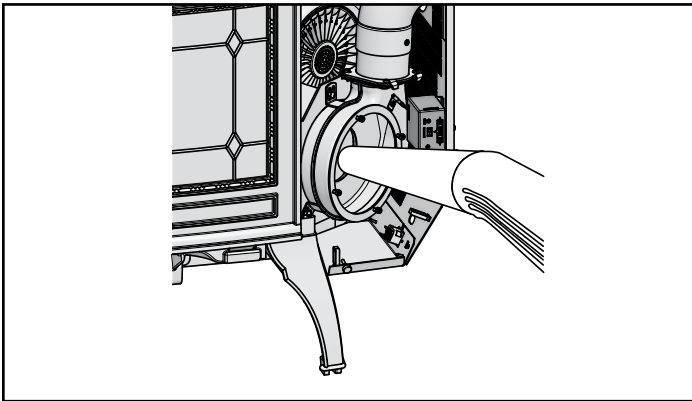

Figure 18.1
- d. Vacuum out exhaust path and housing (**Figure 18.1**).